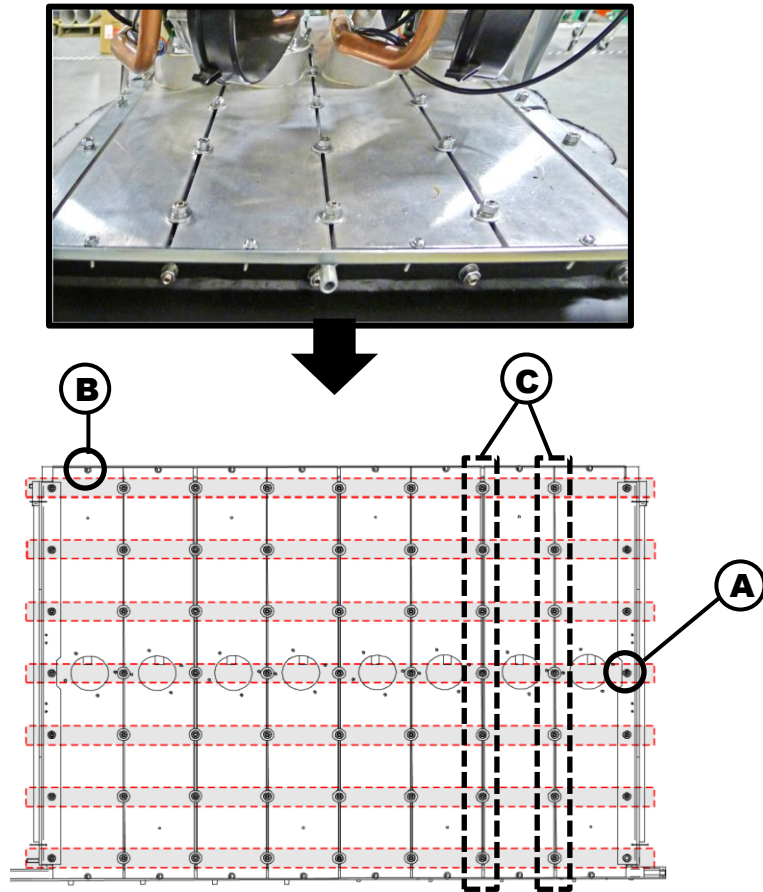

Figure 8-11: Removing the Burner Module Plate Covers (Step 7)
- a) **All Modules:** Use a 13mm wrench to remove all “A” and “C” nuts (surrounded by horizontal dotted lines in Figure 8-11, below). Leave the “B” screws affixed so all burner plates may be lifted together. Then complete the remainder of the instructions in this section.
- b) **Separate Modules:** Use a 13mm wrench to remove only the “A” and “C” nuts on either side of the module in question (vertical dotted lines in Figure 8-11), then remove the “B” Phillips screw at the end of the burner module. You can then skip the remaining steps in this section and continue with section 8-11 - Cleaning the Burner Module.